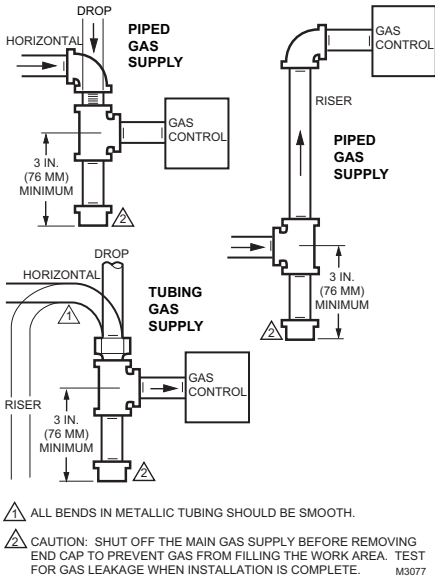

Fig. 3. Sediment trap installation.
3. Install a sediment trap in the supply line to the control. See Fig. 3.